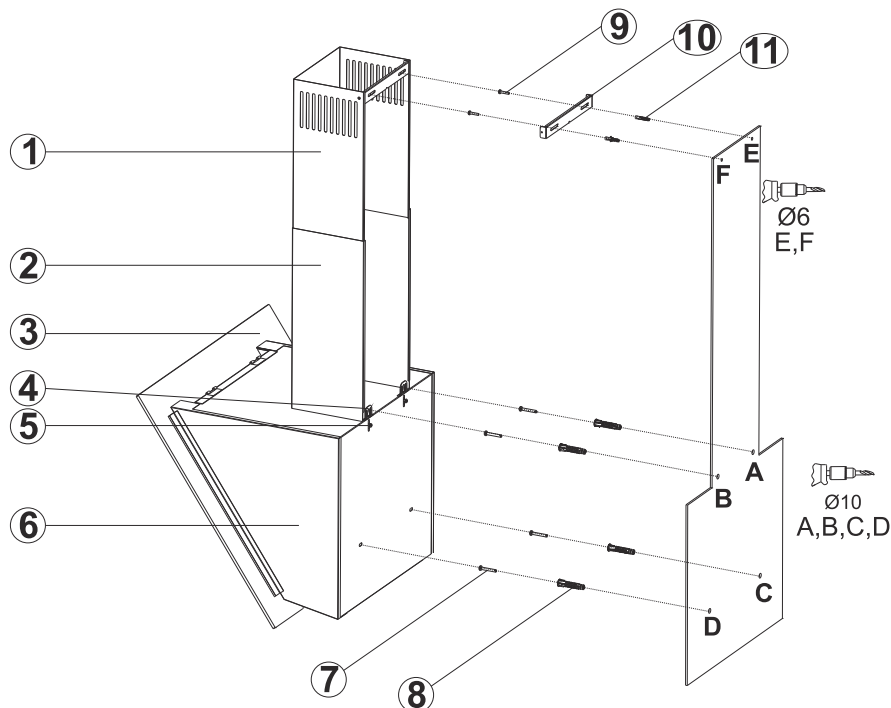

Fig. 11
1. ➤ Loosening the product hanging plate fixing screw (5) pull the hanging plates (4) upwards, and fix the hanging plated by re-tightening the fixing screw (Fig. 11).
2. ➤ Assemble the cooker hood with the help of the assembly scheme (Fig. 11).
3. ➤ Affix the assembly pattern on the wall, at the specified height (See the minimum and maximum distances intended for the worktop, in the assembly pattern). Perforate points A, B, C and D (Fig. 11).